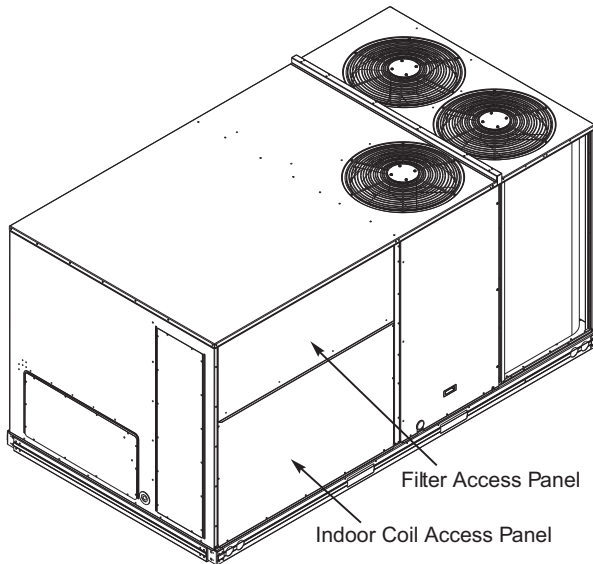

Fig. 14 — Typical Access Panel Locations
1. To gain access to the hood, remove the filter access panel. See Fig. 14.